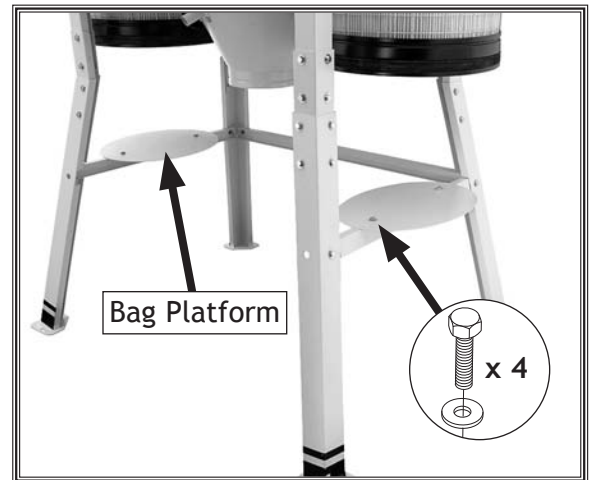

Figure 19. Bag platform connected to the side stand brace.
15. Attach the two bag platforms to the side stand braces with (4) $\frac{3}{8}$ "-16 x $\frac{3}{4}$ " hex bolts and (4) $\frac{3}{8}$ " flat washers, as shown in **Figure 19**.